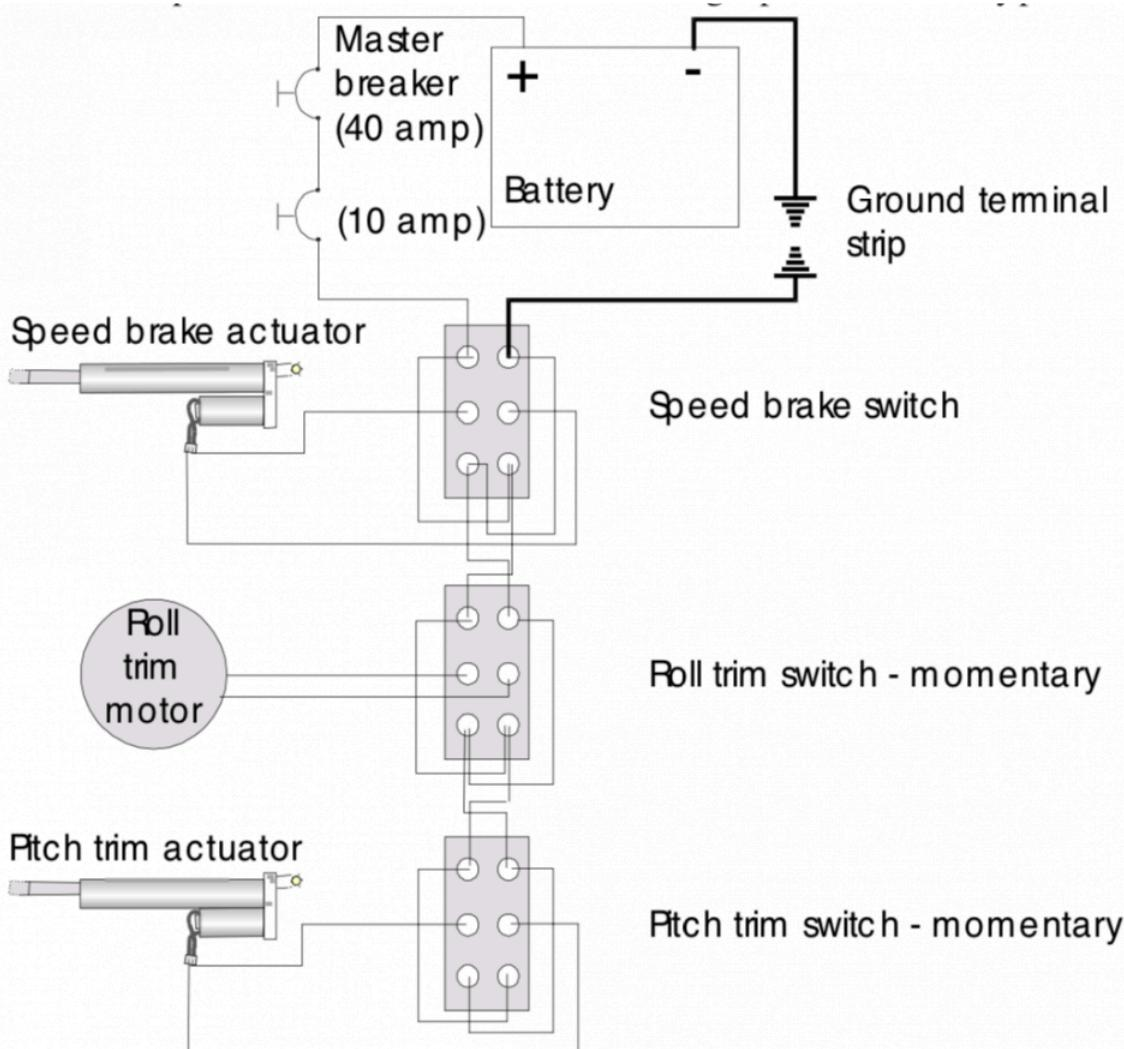

Figure 13-8. Speed Brake and Trim Switch Wiring Diagram
consider installing two (2) switches just in case one should fail. If you are using a relay, consider wiring it so that when the “Battery Master” switch is **ON** and the “Radio Master” switch is in the **OFF** position, the relay is energized and interrupting the power to your radio bus. When you flip the Radio Master switch **ON**, you de-energize the relay allowing power to the radio bus. This gives you a built in fail safe should your switch or relay fail to operate normally. See Figure 13-8.
installing just the trim motors, you will need a 5 amp circuit breaker. The power and ground wire for these systems are first routed to the appropriate switches, whether in the control grip or in the throttle quadrant. These wires are then run to the appropriate motor. Figure 13-8 shows the wiring for these two systems. The power and ground wire is effectively crossed on the four outside terminals of each switch and the two center terminal then go to the motor. The speed brake switch is a double pole, double throw (DPDT)(on-on) switch while the pitch and roll trim switches are DPDT (mom)-off- (mom). (mom) = momentary on